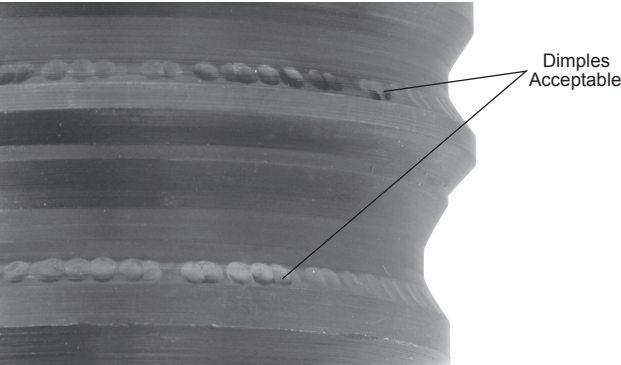

Figure 5 – Dimples In QCS Coupling Grooves
4. Inspect and maintain any other equipment being used per its instructions to make sure it is functioning properly. Inspect the interchangeable heads for wear, deformation or other issues. When inspecting the mating portion of the QCS coupling on the interchangeable heads, dimples in the grooves of the QCS coupling are normal with use and are not considered damage (Figure 5).